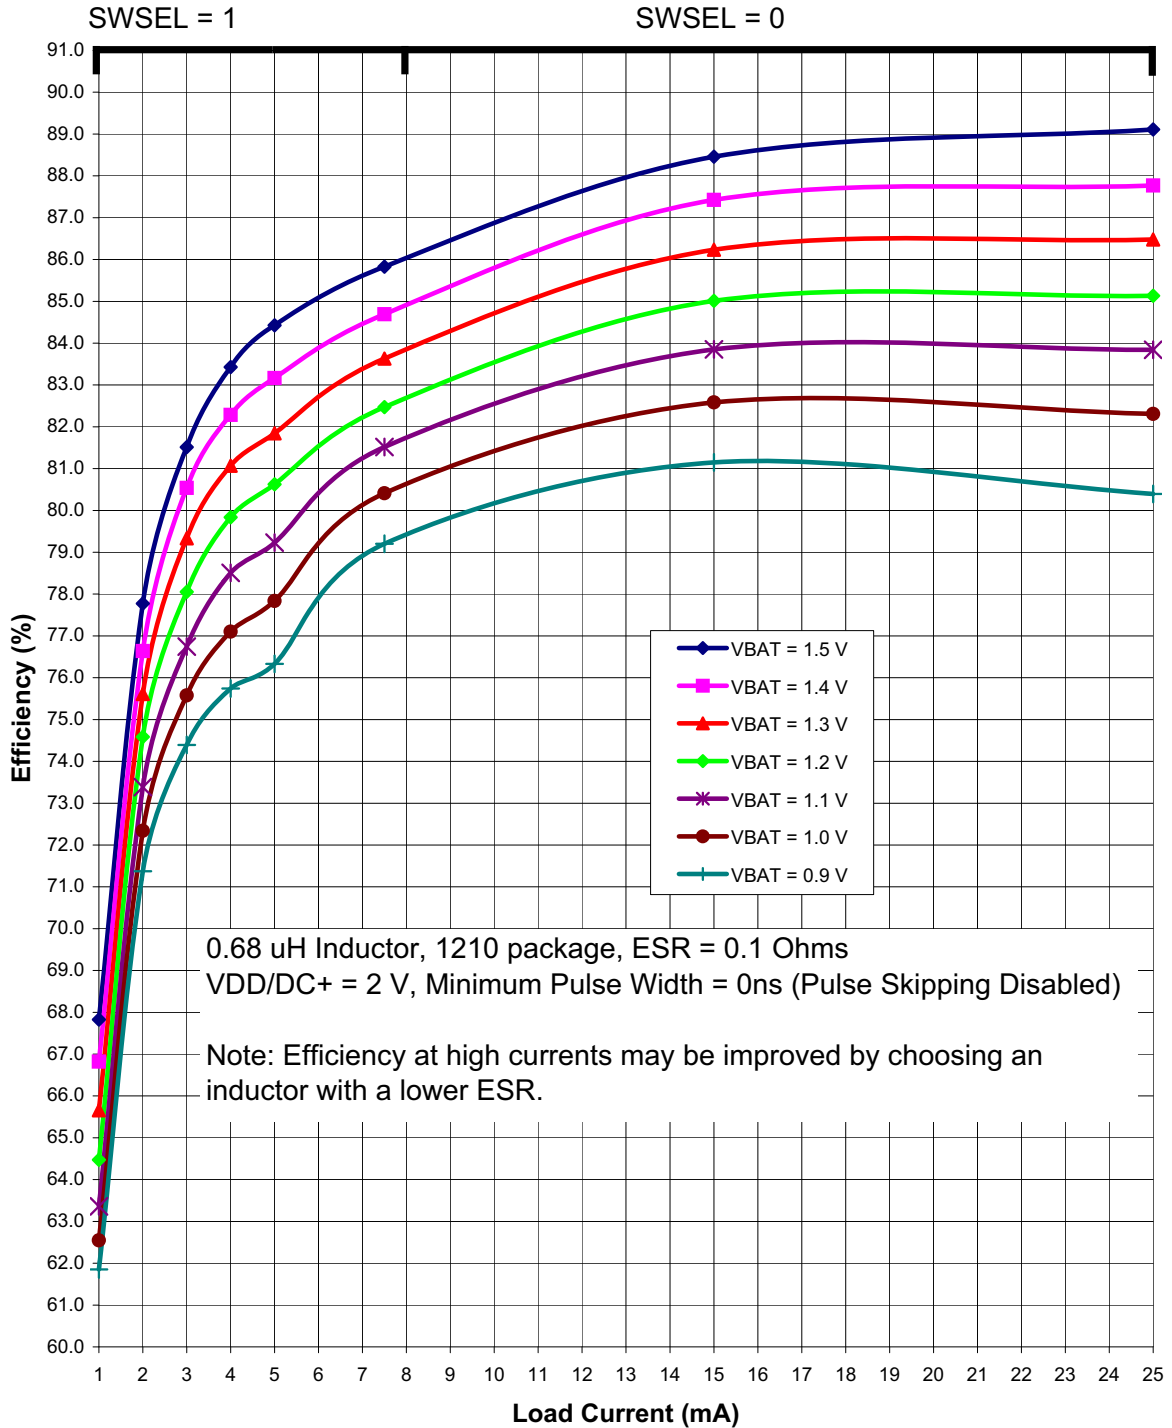
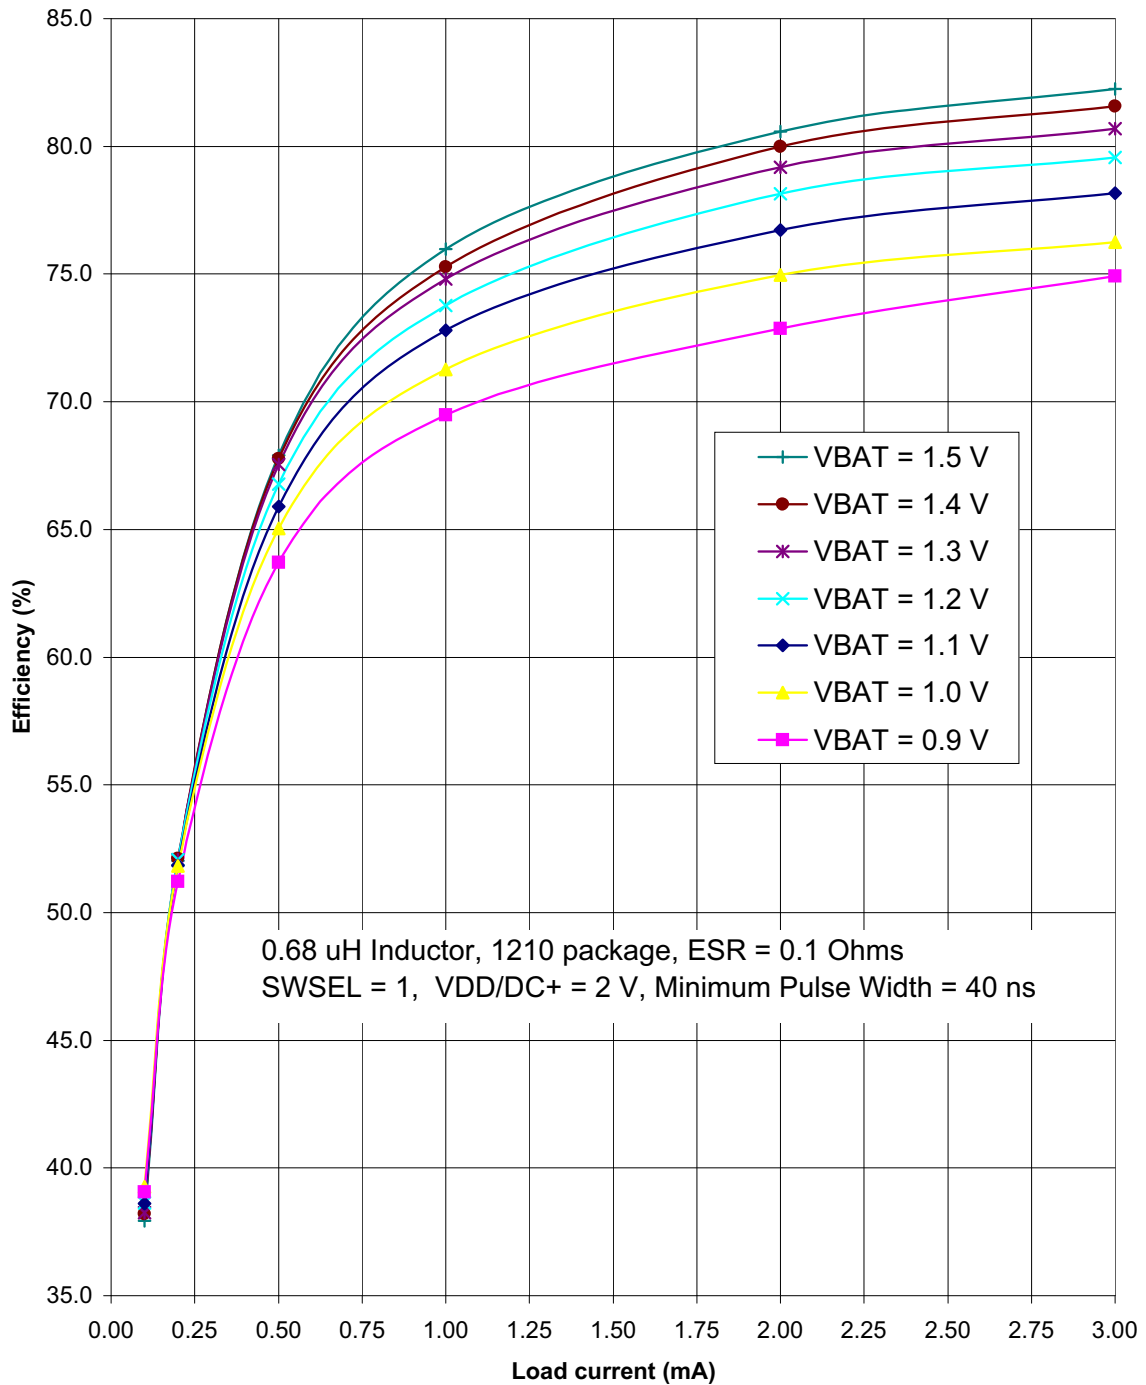

Figure 4.3. Typical DC-DC Converter Efficiency (High Current, VDD/DC+ = 2 V)
Figure 4.5. Typical DC-DC Converter Efficiency (Low Current, VDD/DC+ = 2 V)
| <ol style="list-style-type: none"> 1. Based on device characterization data; Not production tested. 2. SYSCLK must be at least 32 kHz to enable debugging. 3. Digital Supply Current depends upon the particular code being executed. The values in this table are obtained with the CPU executing an "sjmp \$" loop, which is the compiled form of a while(1) loop in C. One iteration requires 3 CPU clock cycles, and the Flash memory is read on each cycle. The supply current will vary slightly based on the physical location of the sjmp instruction and the number of Flash address lines that toggle as a result. In the worst case, current can increase by up to 30% if the sjmp loop straddles a 64-byte Flash address boundary (e.g., 0x007F to 0x0080). Real-world code with larger loops and longer linear sequences will have few transitions across the 64-byte address boundaries. 4. Includes oscillator and regulator supply current. 5. IDD can be estimated for frequencies ≤ 14 MHz by simply multiplying the frequency of interest by the frequency sensitivity number for that range, then adding an offset of 90 μA. When using these numbers to estimate I_{DD} for >14 MHz, the estimate should be the current at 25 MHz minus the difference in current indicated by the frequency sensitivity number. For example: $V_{DD} = 3.0$ V; $F = 20$ MHz, $I_{DD} = 4$ mA – $(25 \text{ MHz} - 20 \text{ MHz}) \times 0.102 \text{ mA/MHz} = 3.5$ mA assuming the same oscillator setting. 6. The supply current specifications in Table 4.2 are for two cell mode. The VBAT current in one-cell mode can be estimated using the following equation: $\text{VBAT Current (one-cell mode)} = \frac{\text{Supply Voltage} \times \text{Supply Current (two-cell mode)}}{\text{DC-DC Converter Efficiency} \times \text{VBAT Voltage}}$ <p>The VBAT Voltage is the voltage at the VBAT pin, typically 0.9 to 1.8 V. The Supply Current (two-cell mode) is the data sheet specification for supply current. The Supply Voltage is the voltage at the VDD/DC+ pin, typically 1.8 to 3.3 V (default = 1.9 V). The DC-DC Converter Efficiency can be estimated using Figure 4.3–Figure 4.5.</p> 7. Idle IDD can be estimated by taking the current at 25 MHz minus the difference in current indicated by the frequency sensitivity number. For example: $V_{DD} = 3.0$ V; $F = 5$ MHz, Idle $I_{DD} = 2.1$ mA – $(25 \text{ MHz} - 5 \text{ MHz}) \times 0.079 \text{ mA/MHz} = 0.52$ mA. 8. Internal LFO only available on 'F912 and 'F902 devices. 9. Ability to disable VBAT supply monitor only available on 'F912 and 'F902 devices. | | | | | |